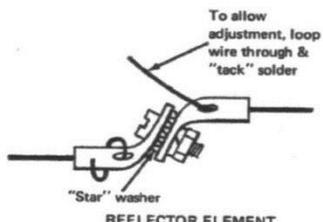

FIGURE 3
4. Repeat Step 3 for the reflector but refer to Fig. 3 for the method of closing the loop. *Again, if you are not doing the “fine tuning,” you can made this a permanent connection by soldering the wire, and then drill the hole for the last (fourth) clamp....then skip to step 9 for feed line information..*